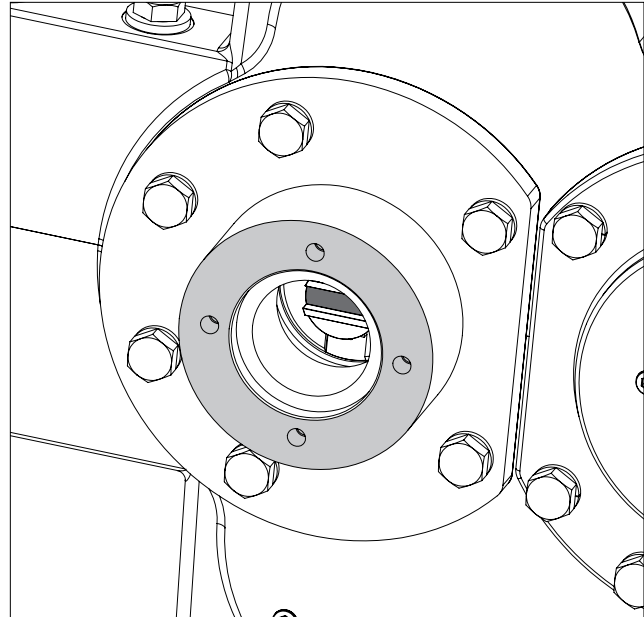

FIGURE 18 — Surfaces to measure the distance between for re-setting proper copuling hub position on pump shaft. Surfaces are indicated in gray.
- c. Using a depth micrometer or similar instrument, measure the distance from the pump mounting surface to the deepest point on the coupling center disc (the depressed, center slot). See Figure 18.